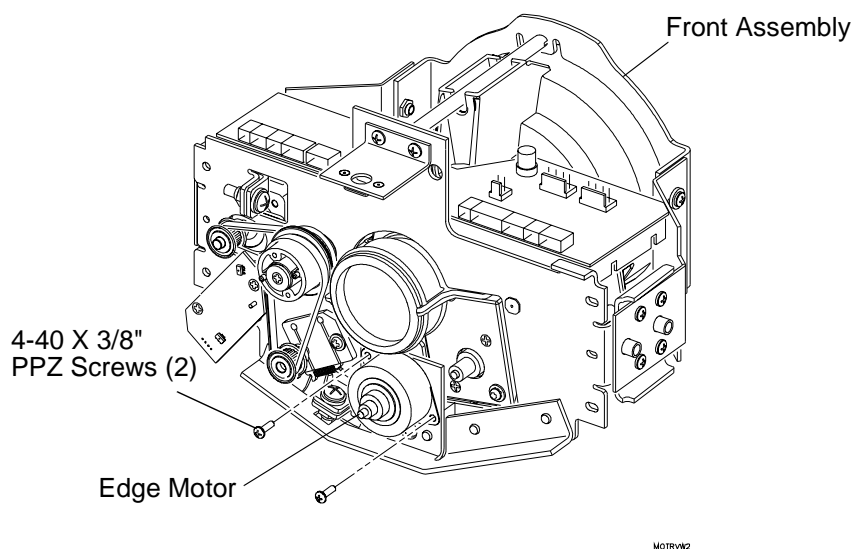
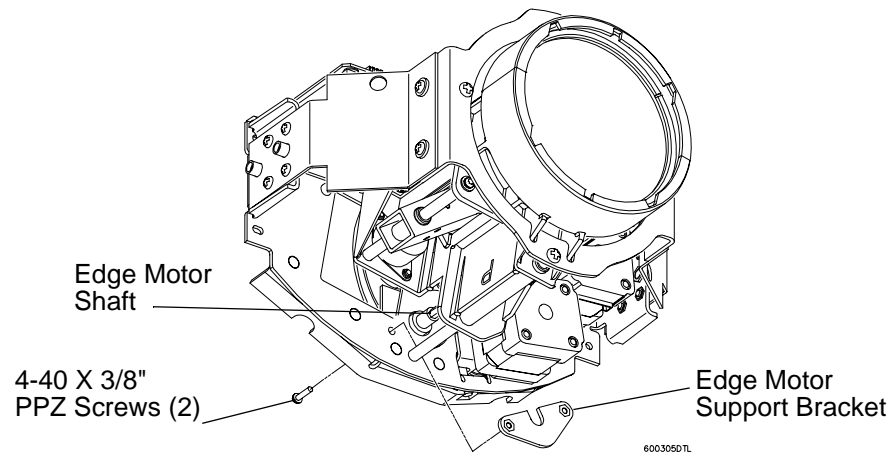

Figure 2-16: Removing Edge Motor Assembly Attaching Hardware
Figure 2-17: Edge Motor Assembly Support Bracket Location
- Step 6. At edge motor assembly, using #1 Phillips screwdriver, remove two 4-40 X 3/8" PPZ screws and edge motor support bracket. **Figure 2-16.** and **Figure 2-17.**